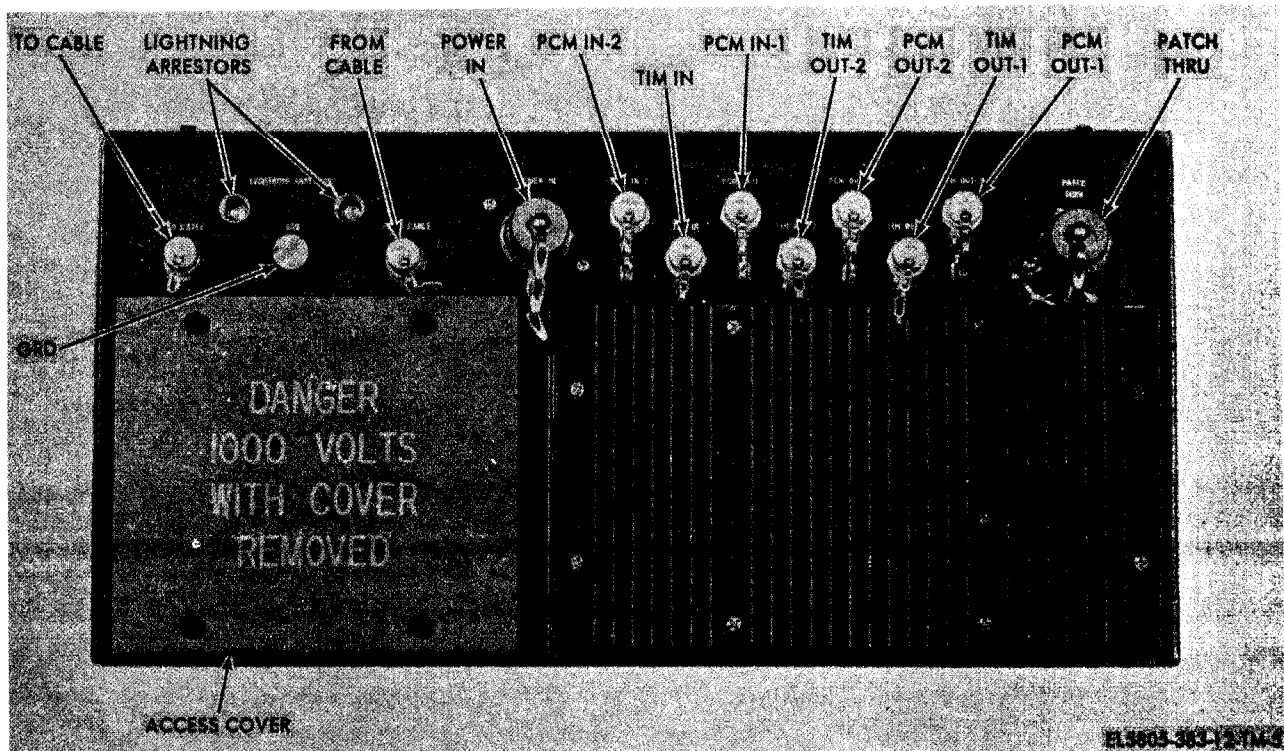

Figure 1-5. Multiplexer TD-754/G, rear panel.
c. Rear Panel (fig. 1-5). The rear panel contains nine input/output coaxial receptacles, a multipin power receptacle, and a multipin patch through receptacle. An access cover to the intraunit wiring to the plug-in panel receptacles is mounted in the rear of the TD-754/G multiplexer case.